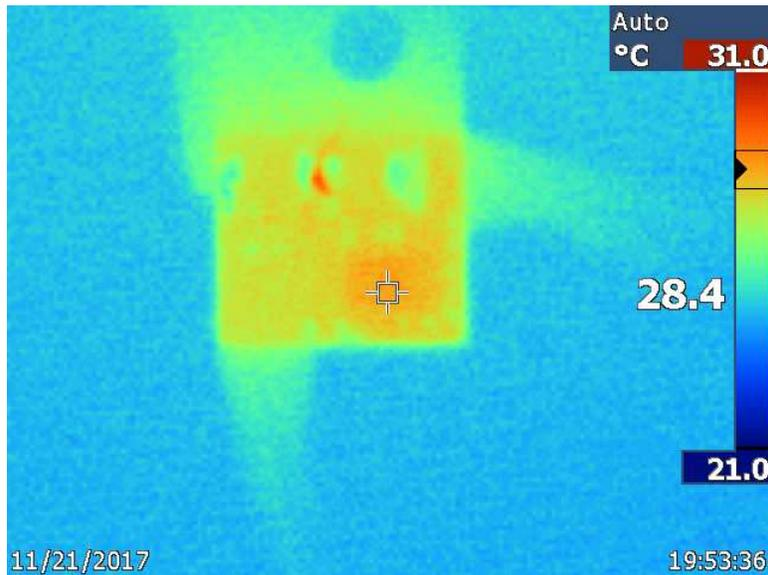

Figure 15. Thermal Image at 24 V_{IN}, 5 V_{OUT}, 10 mA I_{OUT}
The infrared (IR) thermal image in Figure 15 was taken at steady state with 24 V_{IN} and the LMR36006 output at a load of 10 mA (no airflow). The ambient temperature is approximately 22°C. The maximum IC temperature is 28.4°C.